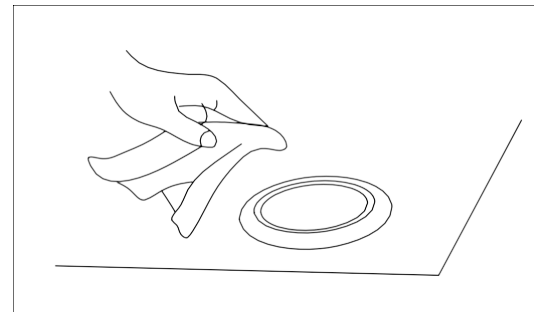

Figure 6
- Clean the surface of the light outlet of the lamp (Figure 6).